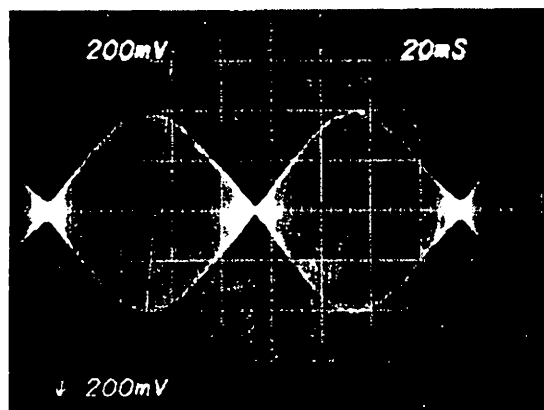

FIGURE 11 HEAD RADIAL ALIGNMENT
- h. When the lobes are of equal amplitude, tighten the motor mounting screws. Reference Figure 11.